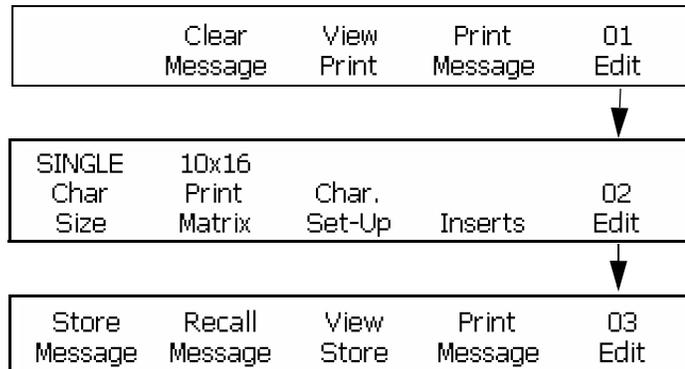

Figure 6-60: Frame <01 Edit>
- 1 Begin in the frame <01 Edit> or <03 Edit>. Refer to Figure 6-60.